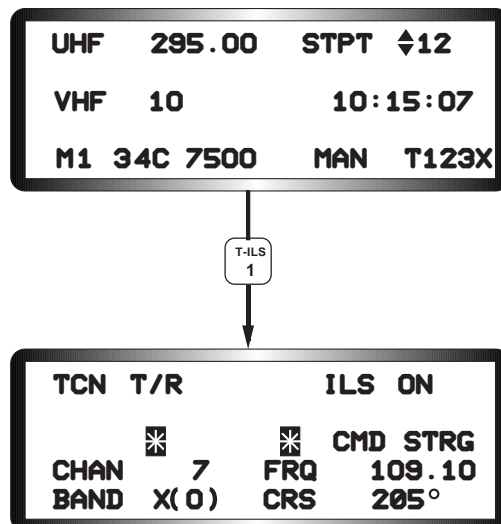

Figure 1-26 Priority Function Page Access
**Priority Functions.** The pilot accesses the DED priority function pages from the CNI page by depressing any of the keys 1 through 9 (Figure 1-26). The priority functions are labeled on the keys and may only be accessed when the CNI Base page is active. Priority functions include: